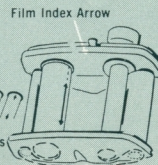

FIG. 4
**No. 3**—Hold the lever "A" (Fig. No. 3) to the left and turn winding knob "B" until the last number (8 or 12) on the exposure counter passes the index mark (white line) and the counter no longer turns. Unwind enough of the protective paper covering of the film, making sure that the black side is outward, to pass around the front of the carriage and to take-up spool on the right. Thread the end of the paper into the take-up spool and make one complete turn with the winding knob. Check to make sure that the paper has been wound evenly between the spool flanges. Now turn the winding knob until the marker on the backing is opposite the arrow on the film carriage. (See Fig. 4.)